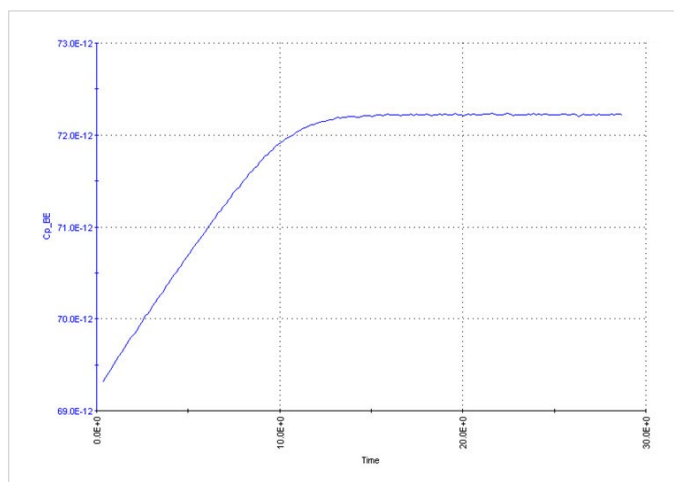

Figure 20. Equilibrium time measurement example
2. Set up a test in the Sampling mode to apply a voltage bias and graph the capacitance vs. time of the device. Observe from the graph the time it takes for the device to charge up. For example, the graph in **Figure 20** shows a curve of the capacitance vs. time, measured between the emitter and base of a BJT. The applied voltage was 0.5 VDC. From the graph, the equilibrium time is about 13 seconds. Because the equilibrium time is very long for this device, it may be a bad device. This is the process to use to determine the equilibrium time.